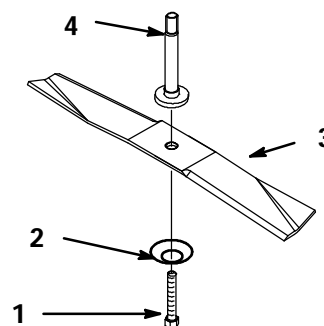

Figure 31
3. Hold the blade end using a rag or thickly padded glove. Remove the bolt, Belleville washer and blade (Fig. 31). A block of wood may be wedged between the blade and the mower to lock the blade when you are removing the bolt.
1. Hold the blade end using a rag or thickly padded glove. Install the blade, Belleville washer, and the blade bolt (Fig. 31).